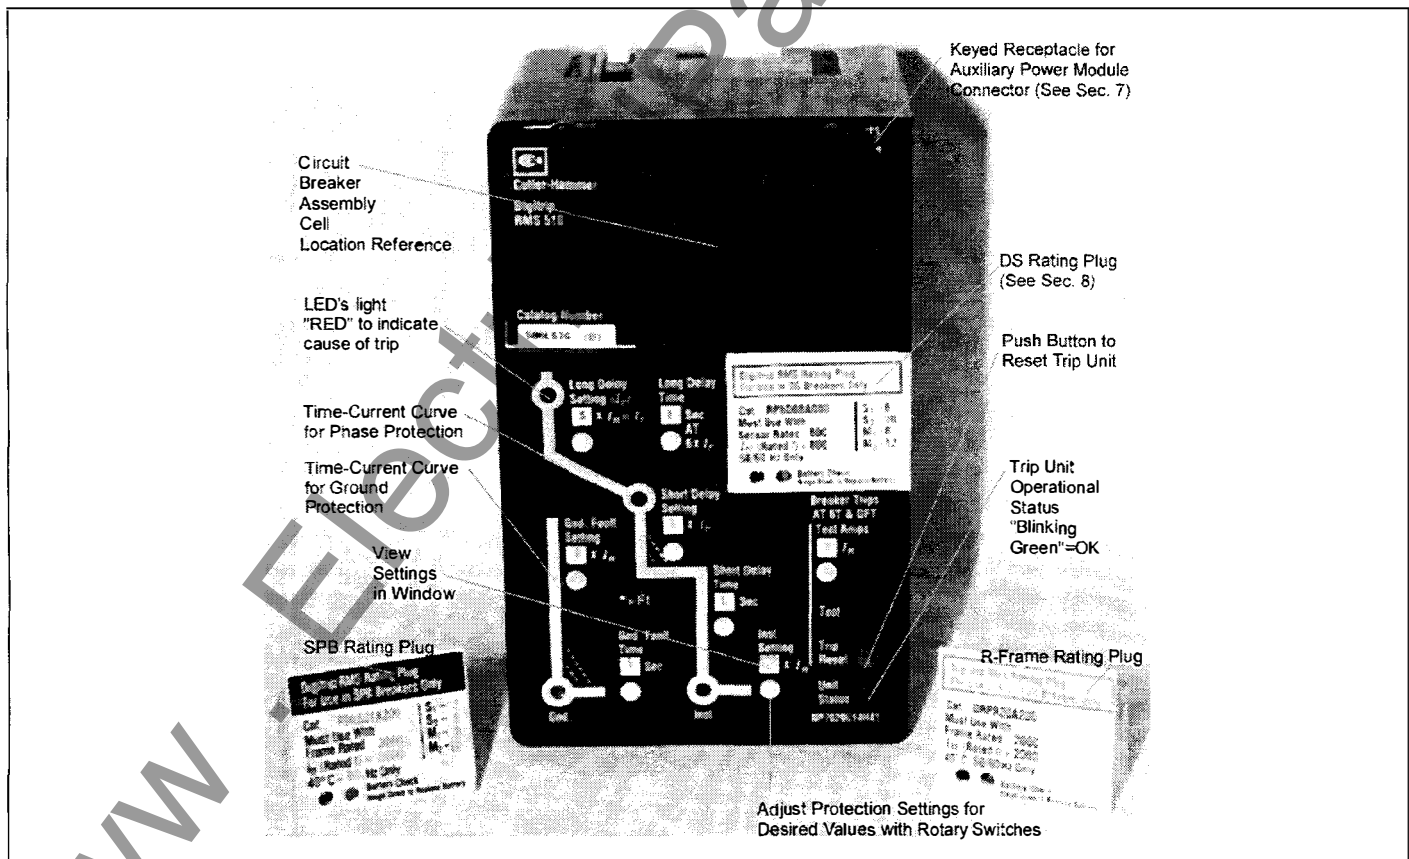
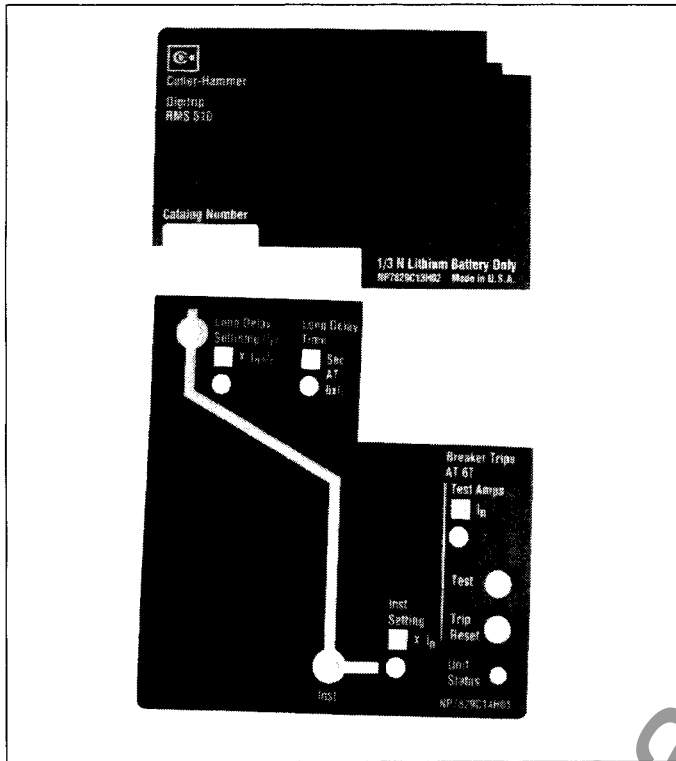
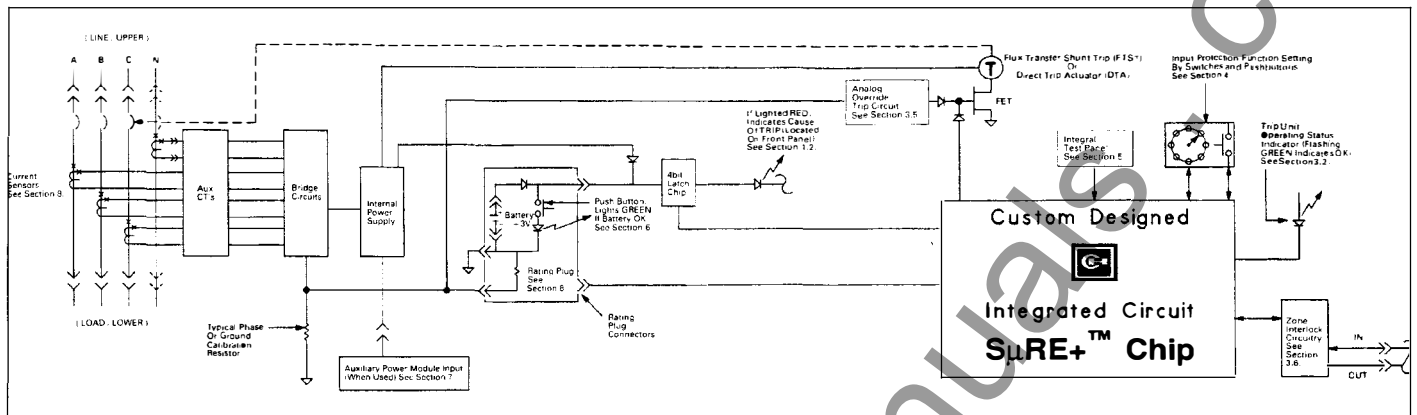
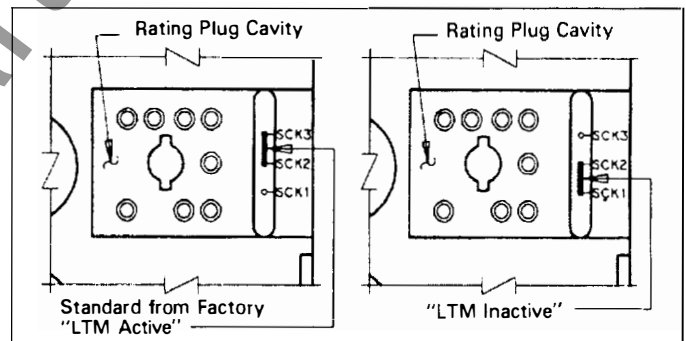

Fig. 1 Digitrip RMS 510 Trip Unit Model LSIG with Rating Plug
Fig. 2.1 Long Time/Instantaneous Protection (LI)
Fig. 3 Digitrip RMS 510 Block Diagram with Breaker Interface
Fig. 4.2.1 Long Time Memory "LTM" Jumper
The Digitrip RMS 510, illustrated in Fig. 1, is a custom application specific integrated circuit based trip unit suitable for use in types DS and DSL low voltage AC power circuit breakers and type SPB Systems Pow-R circuit breakers and Series C[®] R-Frame molded case circuit breakers.
The Digitrip RMS 510 Trip Unit is available in six different types. Each trip unit may be equipped with a maximum of five phase and two ground (time-current) adjustments to meet specific application requirements. The types of protection available for each model include the following, which are illustrated in Figures 2.1 through 2.6:
The Digitrip RMS 510 Trip unit provides three basic functions: Protection, Information and Testing. A typical trip unit and rating plug are illustrated in Fig. 1. Individual product instruction leaflets referenced in Section 9.0 illustrate typical Digitrip RMS Trip Units installed in specific breakers.
The trip unit employs the Cutler-Hammer Inc. custom designed integrated circuit SμRE + chip, which includes a microcomputer to perform its numeric and logic functions. The principle of operation is described by the block diagram shown in Fig. 3.
The LEDs, shown in Figs. 1 and 2.1-2.6, on the face of the trip unit, light "RED" to indicate the reason for any automatic trip operation. As indicated in Figs. 2.1-2.6, each LED is strategically located in the related segment of the time-current curve depicted on the face of the trip unit. The reason for trip is identified by the segment of the time-current curve where the LED is lighted "RED". Following an automatic trip operation, the back-up battery, continues to supply power to the LEDs as indicated in Figs. 3 and 6. To check the status of the battery, see Section 6.
Push the "Trip Reset" button shown in Fig. 1, to turn "Off" the LEDs following a trip operation.
A green colored LED, as shown in Fig. 1, indicates the operational status of the trip unit. Once the load current through the circuit breaker exceeds approximately 10% of the frame/current sensor rating, the green LED will flash "On" and "Off" once each second, to indicate the trip unit is energized and operating properly.
Zone Selective Interlocking (or Zone Interlocking) is available (see Fig. 3) for Digitrip RMS Trip Units having Short Delay and/or Ground Fault protection. Zone Selective Interlocking provides the fastest possible tripping for faults within the breaker’s zone of protection, and yet also provides positive coordination among all breakers in the system (mains, ties, feeders and downstream breakers) to limit the outage to the affected part of the system only. When Zone Interlocking is enabled, a fault within the breaker’s zone of protection will cause the RMS DIGITRIP trip unit to:
Prior to placing circuit breaker in operation, each trip unit protection setting must be set to the values specified by the engineer responsible for the installation. The number of settings that must be made is determined by the protector model supplied as illustrated in Figs. 2.1 through 2.6. Each setting is made with a rotary switch, using a small screwdriver. The selected setting for each adjustment appears in its respective rectangular viewing window as illustrated in Fig. 1.
In certain applications it may be desirable to disable the LTM function. The LTM function can be disabled by (first opening the breaker and then) removing the Rating Plug (See Figures 1 and 6), and lastly moving the LTM jumper (inside the rating plug cavity, See figure 4.2.1) to its "INACTIVE" connection. (You can enable the LTM function again any time you wish by moving the LTM jumper back to its original "ACTIVE" connection.)
- 2) There is a condition under which the Long Delay Trip LED can erroneously indicate a LDT has occurred, even though the breaker is still closed. This can happen when an overload current momentarily exceeds the Long Delay Current Setting, I_r , so that the Long Delay LED flashes "RED" to indicate the overload condition. Then if, at the very moment when the LED is "ON", the load current would then suddenly drop to a value less than 10% of the breaker frame (or current sensor) rating, the trip unit stops functioning while the "4bit Latch Chip" (See Fig. 3) is set and the LED remains Lighted. If the current would again increase to a value above the Long Delay Current Setting, I_r , and then return to normal, the
LDT will reset itself. You can of course, manually clear the LDT (or any other trip indication) at any time, by pushing the "PUSH to RESET" button. (See Figure 1.)